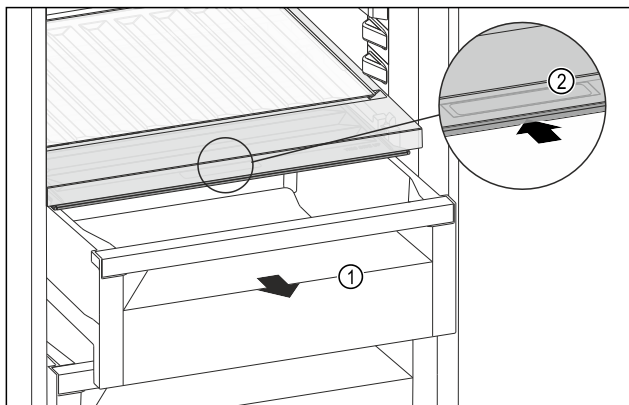

Fig. 220
- ▶ Pull out the drawer Fig. 220 (1).
- ▶ Grasp the recessed grip Fig. 220 (2) on the compartment lid and push the compartment lid backwards at the same time.